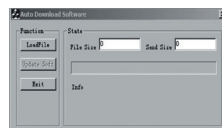

Figure 4
3. Run «Auto Download software» on PC and click «LoadFile» button to load the update software(***.UPL)[See Figure 4], then click «Update Soft» button to download the software(See Figure 5)